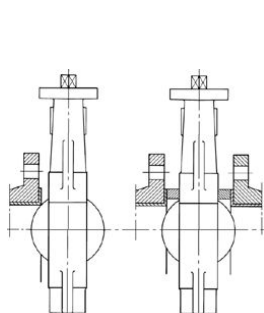

Figure 4
- The butterfly valves may not be fitted into a pipe which inner diameter is smaller than the nominal diameter of the valve. In such case you should use spacers to prevent damage to the disc (See figure 4).